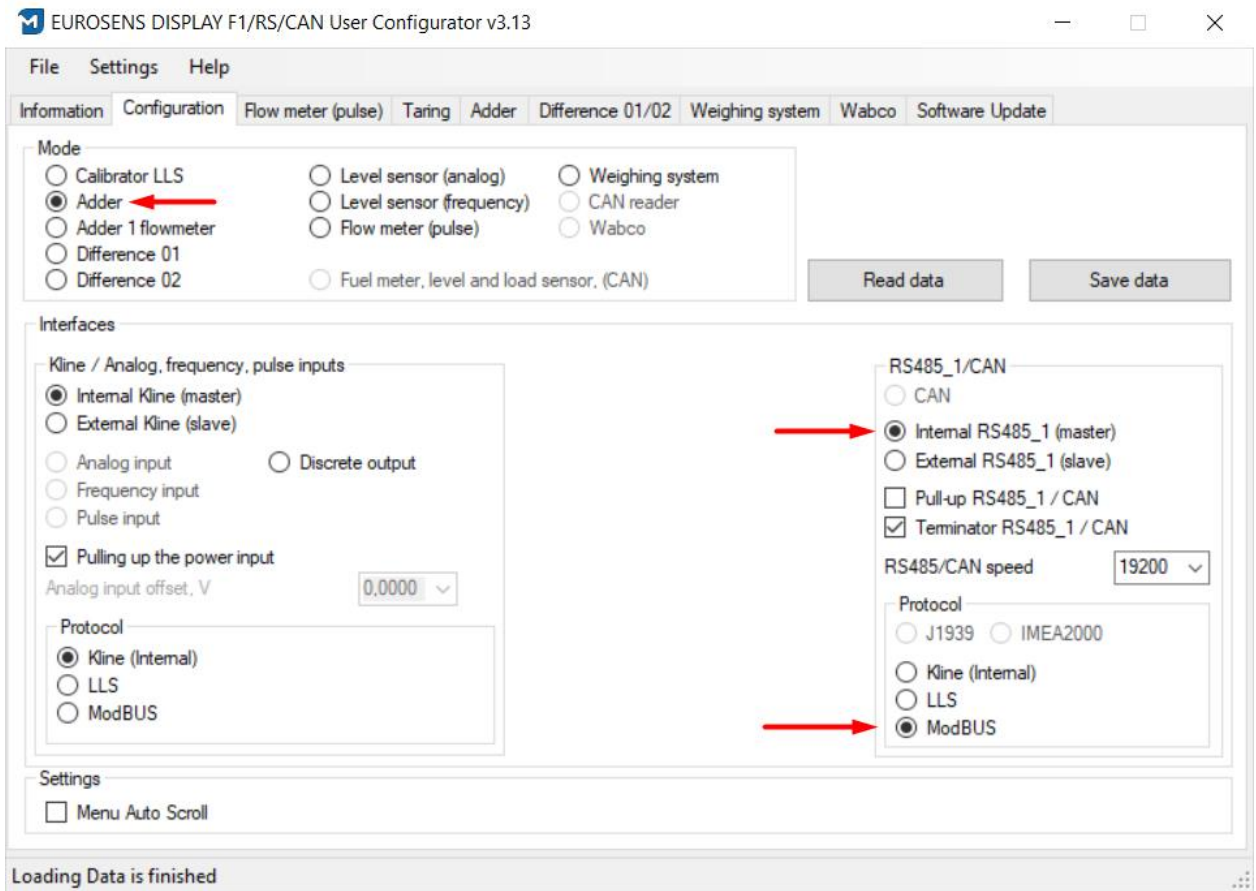

fig.4.5. "Configuration" tab
- 1) On the "**Configuration**" tab (fig. 4.5) select the RS-485 internal network (master) and MODBUS internal network protocol.